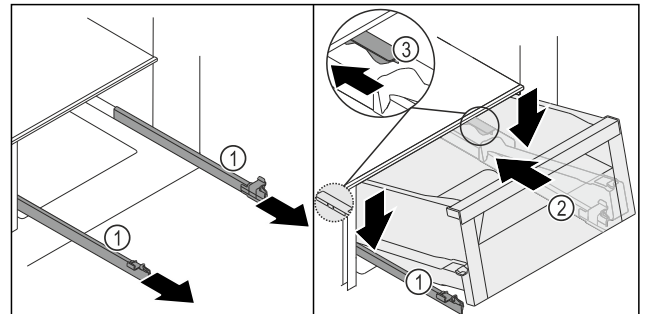
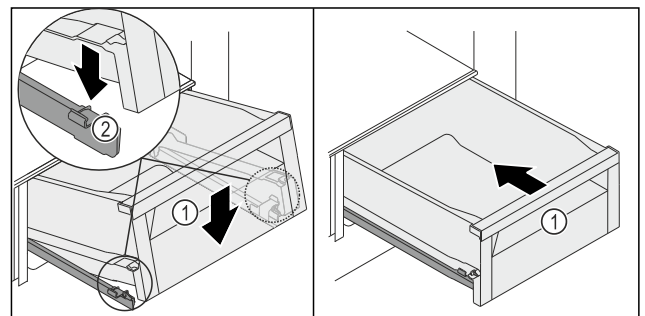

Fig. 141
Fig. 142
- Hold the rails Fig. 141 (1) firmly and place the drawer Fig. 141 (2) from above behind the stopper Fig. 141 (3) on the rails Fig. 141 (1).
- Push the drawer Fig. 141 (2) on the rails Fig. 141 (1) to the back as far as it will go.
- Lower the front of the drawer Fig. 141 (2) so that the drawer slides into the clamp Fig. 142 (2) on the left and right.
- The drawer Fig. 142 (1) latches in audibly.
► Push in the drawer *Fig. 142 (1)*.